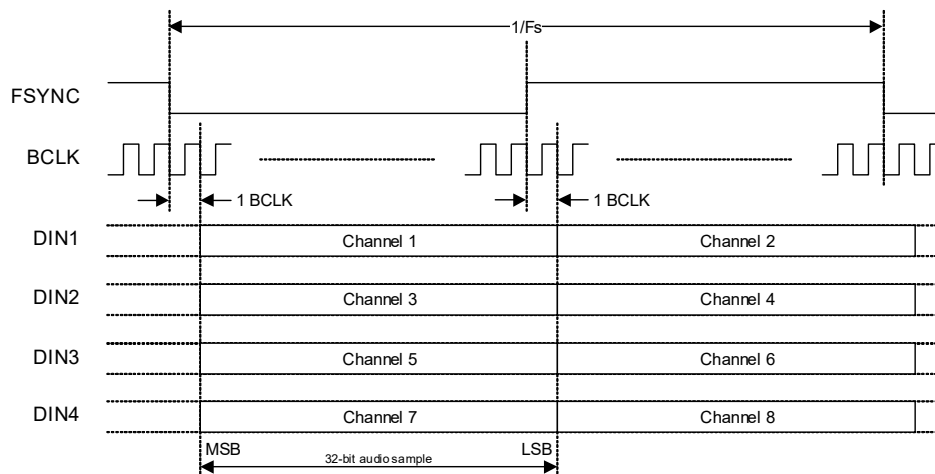
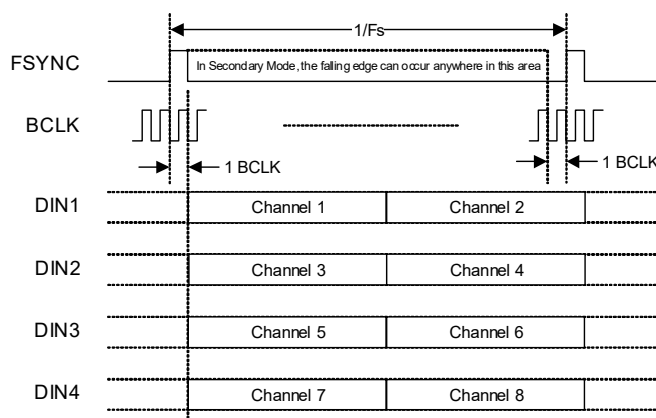

Figure 4-12. I²S Data Format
Figure 4-16. TDM Data Format—4 x DIN
The ASP data format in I²S, Left-Justified, and TDM interface modes as illustrated in Fig. 4-12 through Fig. 4-16. Refer to Table 4-14 for the applicable definition.
- If I²S data format is selected, the ASP supports audio channels 1–8 as shown in Fig. 4-12. The minimum BCLK rate is 64 fs (where fs is the sample rate). A higher BCLK frequency can be used, resulting in unused BCLK cycles between the LSB of one sample and the MSB of the next.
The 2-slot TDM format is shown in Fig. 4-16.